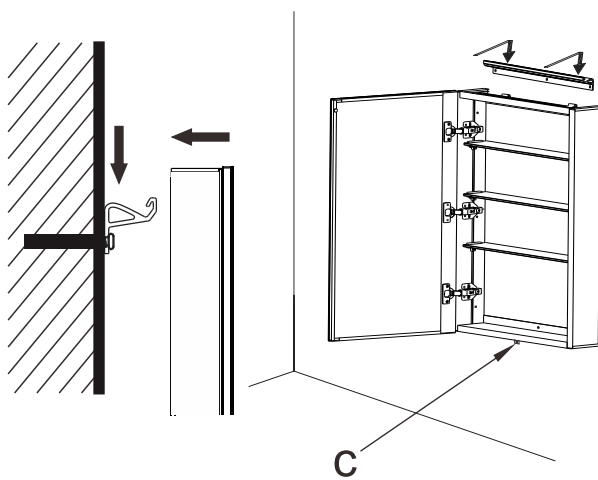

Fig.6
- 2.4 Install the mirror cabinet on the hanging strip ,see details in Fig.6. Choose right locating place and use pencil to make sign on the wall through the base fixing the hole (Fig.6-c).
- 2.6 Repeat the operation as shown in Fig.6 and mount the mirror cabinet to the bar.